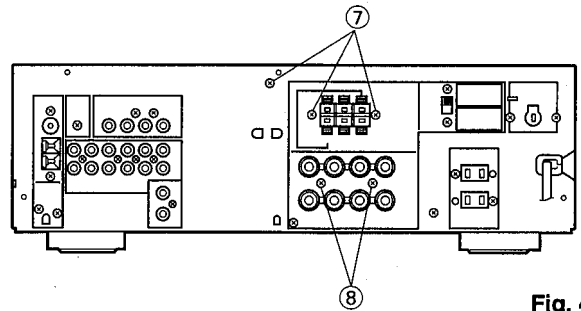

Fig. 4
- e. Remove 3 screws (⑦) and 2 screws (⑧) in Fig. 4.